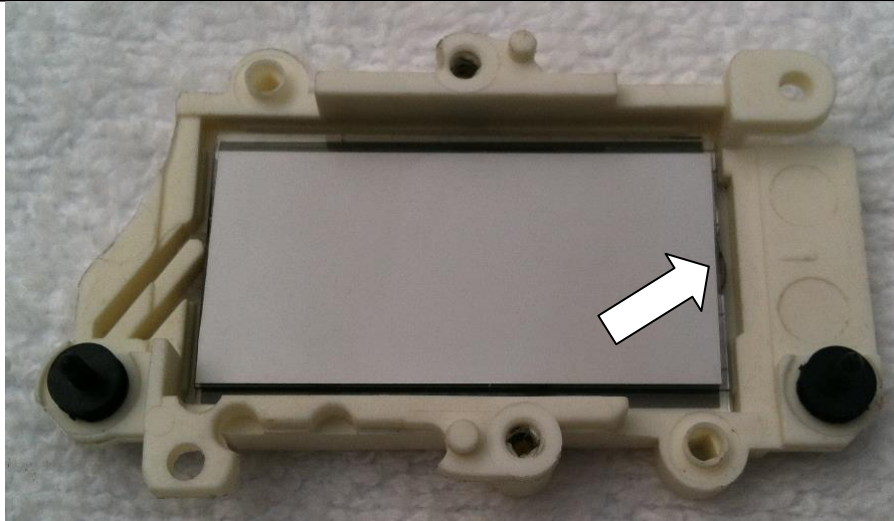

Figure 3: Make sure the bump on the side of the LCD is in the notch
7. Make sure the bump on the end of the LCD screen is on the notched side of the white plastic housing (Fig 3).